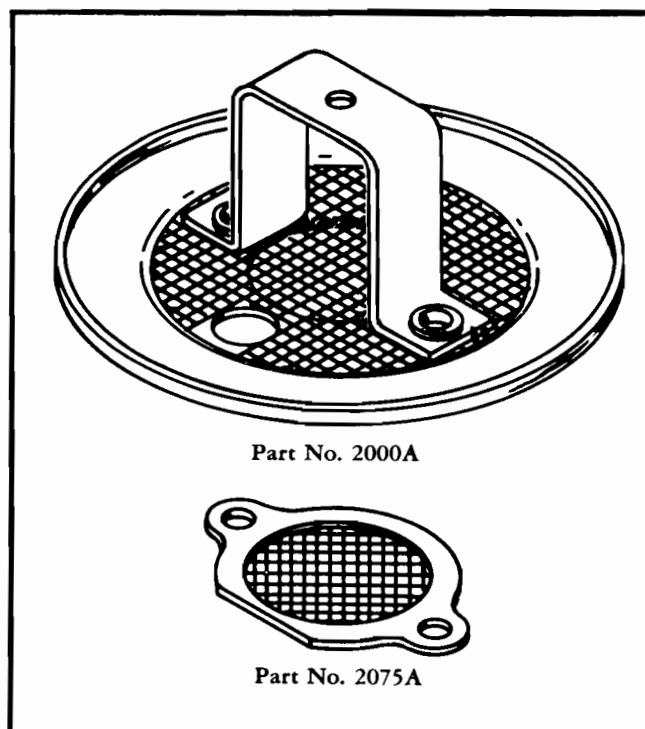

Figure No. 39—2-Cycle Intake Screen Elements
**The Intake Screen.** Early production of Clinton two cycle engines did not incorporate an intake screen, and it was soon found that foreign matter was being taken into the combustion chamber causing excessive damage. A screen and gasket assembly (Part No. 2075A) (See Figure No. 39) is now available for installation between the air cleaner bracket (Part No. 2000-A, See Figure No. 39) and the carburetor on engines which do not have this protective unit as part of the air cleaner bracket assembly.